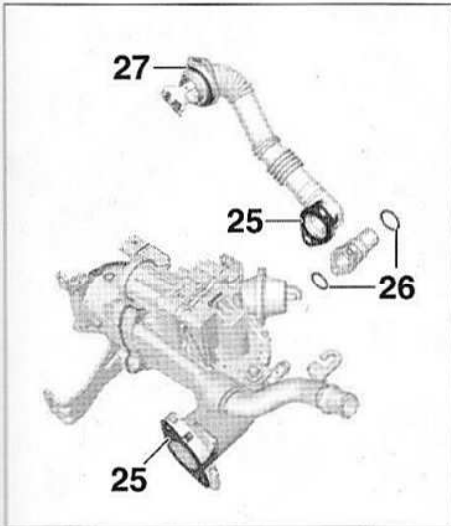

FIG.100
- Reposer les joints (25), (26) et (27) (Fig.100).